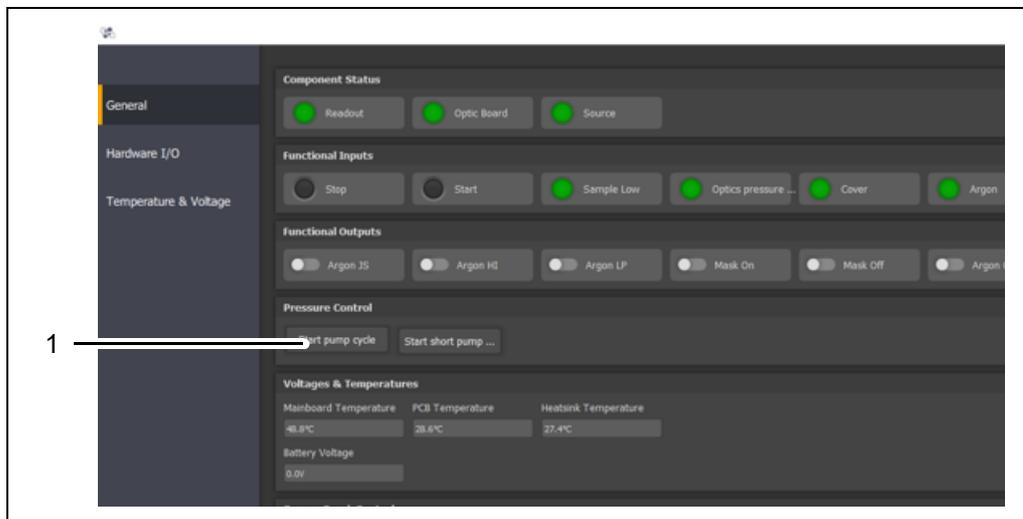

Fig. 5-6 "Test Controls" window
5. Actuate the "Start pump cycle" button (1, fig. 5-6).